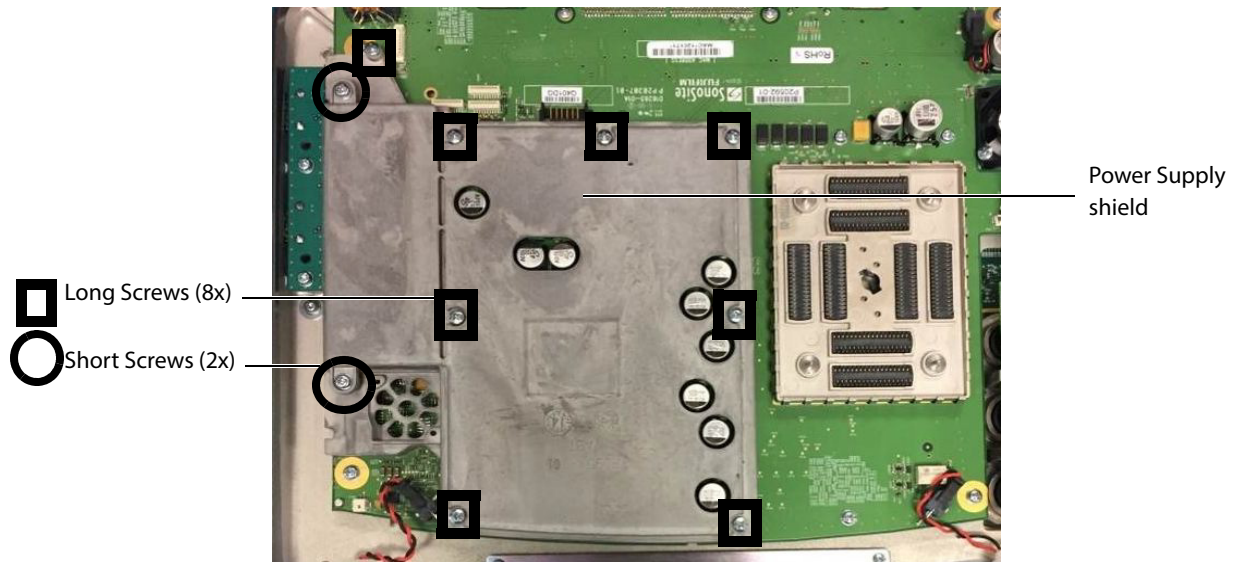

Figure 6.11 Power Supply Shield
- 1 Remove the 8 long screws and 2 short screws holding the Power Supply Shield lid. Please note the location of the 2 short screws. See Figure 6.11. Remove lid and set aside.